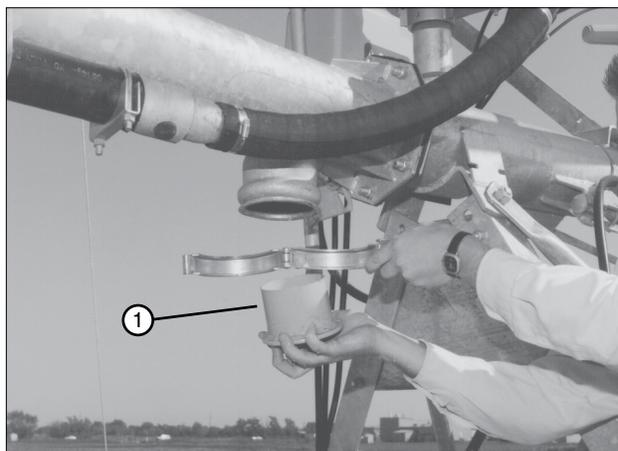

Figure 48-2 1. Sand Trap
3. Remove and clean the sand trap at the last regular drive unit of the free staiding corner span. See figure 48-2.